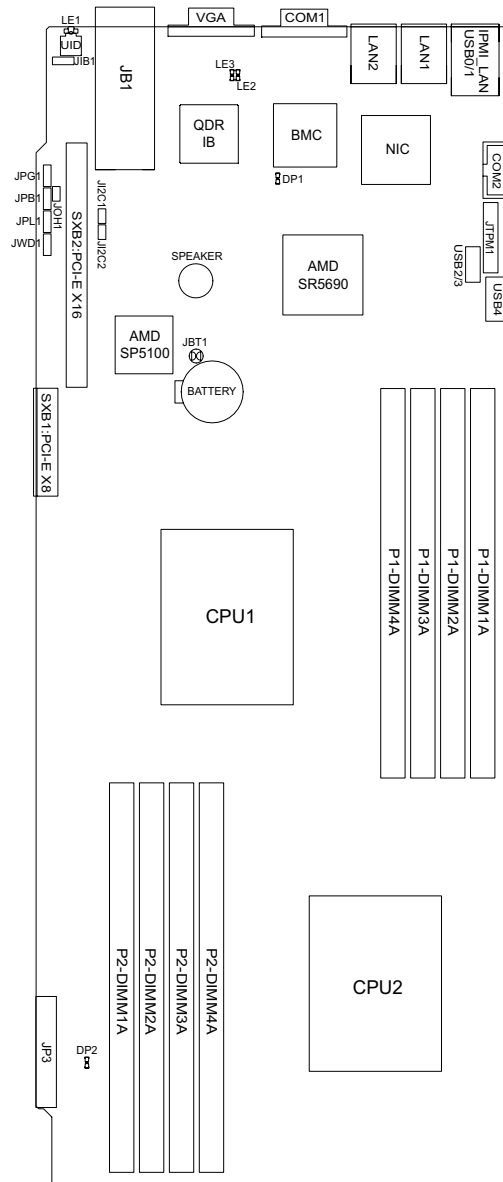

Figure 5-3 Node Board Basic Layout Features (Not to Scale)
- See Figure 5-3 on page 32 for CPU locations on the serverboard - note that the drawing is not to scale.